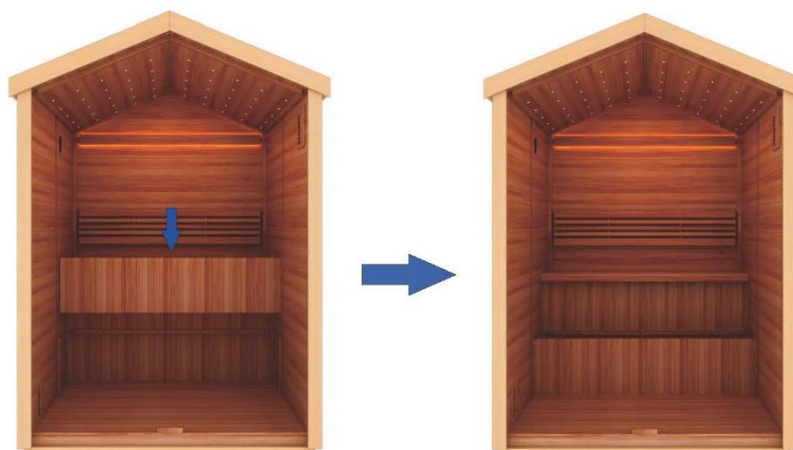
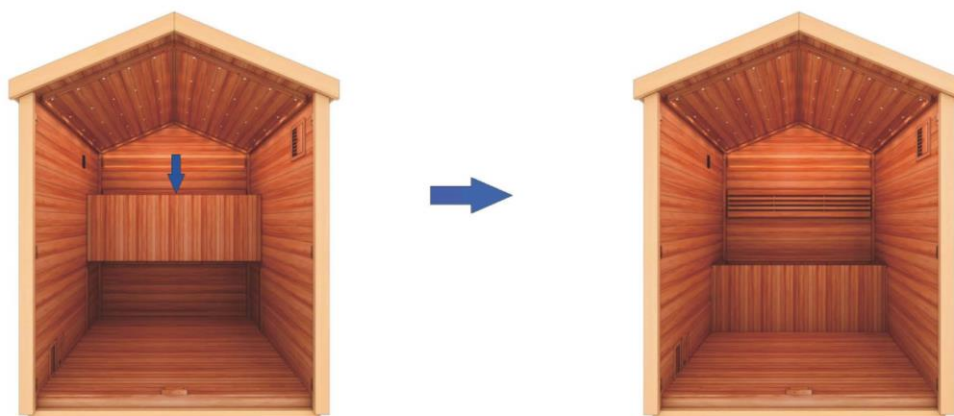

Figure 7
Figure 7a
1. For GDI-8506-01, locate the larger of the two BENCH SUPPORTS. This will be the upper BENCH SUPPORT. The upper BENCH SUPPORT (the larger of the two BENCH SUPPORTS) will need to be installed at an angle. See figure 7. Make sure to feed the power cable underneath the BENCH SUPPORT and that the BENCH SUPPORT slides all the way down. For both models, you can locate and install the lower BENCH SUPPORT. It will need to be installed at an angle as seen in figure 7a. Proceed to make the heater cord connections that will be hidden once the BENCH is installed. For GDI-8506-01, the lower BENCH SUPPORT heater cord can be feed through the upper BENCH SUPPORT in order to connect it to it applicable counterpart.